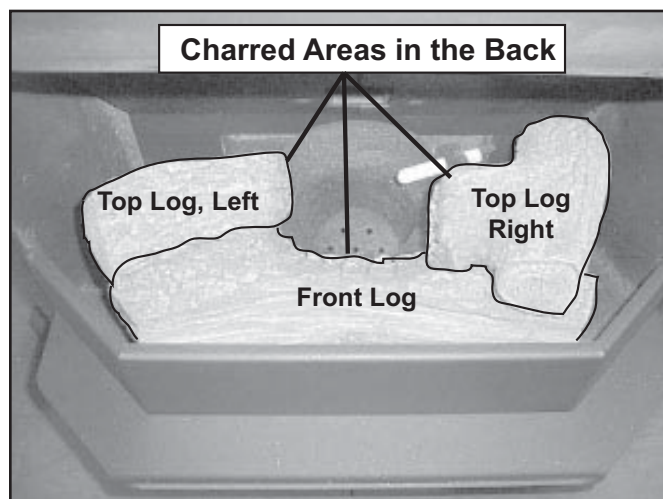

Figure 22.2
2. Set the left and right logs onto the front log, placing the holes in the base of the left and right logs over the locating pins in front log. See **Figure 22.2**. Ensure that the charred ends are facing the firepot.